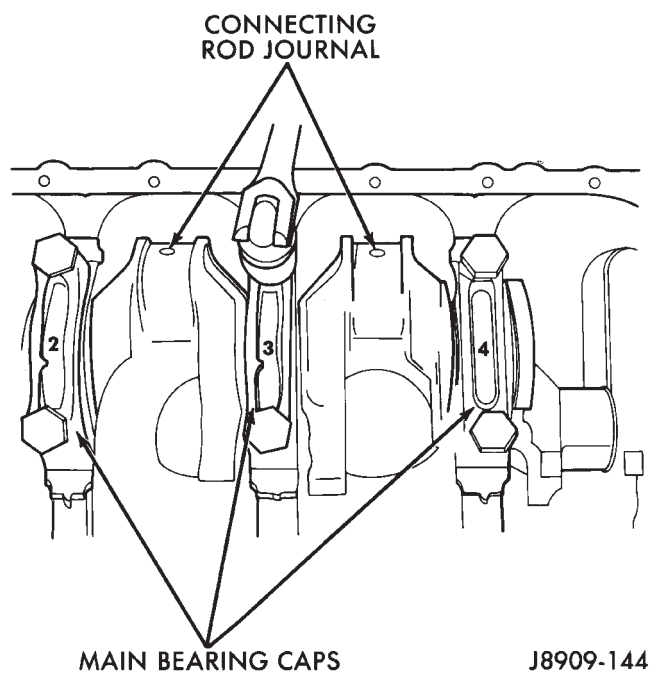

Fig. 49 Removing Main Bearing Caps and Lower Inserts
- (1) Disconnect negative cable from battery.
- (2) Remove the spark plugs.
- (3) Raise the vehicle.
- (4) Remove the oil pan and oil pump.
- (5) Remove only one main bearing cap and lower insert at a time (Fig. 49).